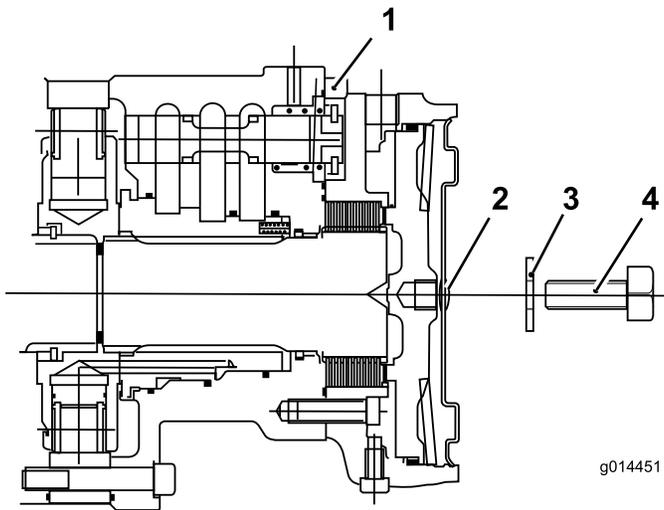

Figure 64
- C. Assemble the hex plug into the motor end plate (Figure 64).